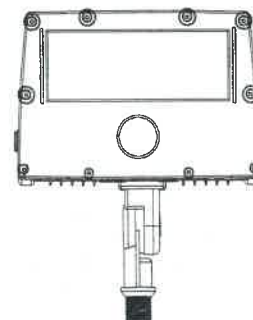

Fig. 5
TOP VISOR INSTALLATION · Order Separately (Fig. 5)
1. Take the screws out from the front cover (see Fig. 5 for screw locations).